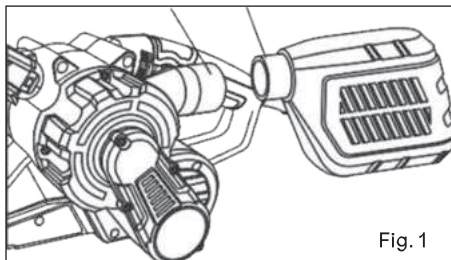

Fig. 1
To install the dust box, insert the front of the dust box (1) into the dust port (2) (Fig. 1).